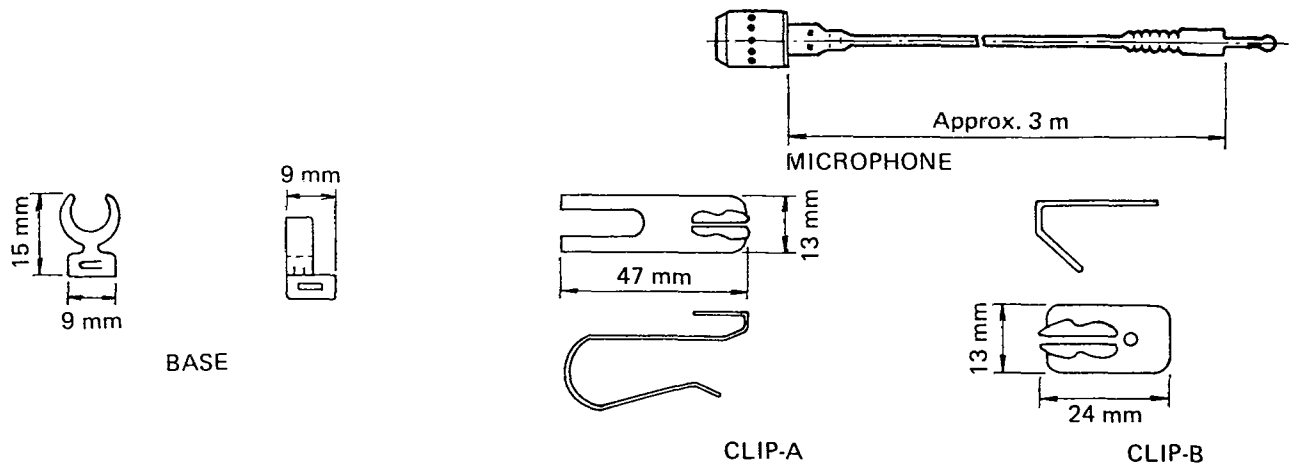

Fig. 2.5
Fig. 2.5 shows the external view of Handsfree Microphone, base and clips.
- (1) Mount the clip to the microphone by inserting the projection of the clip into the hole of microphone base, as shown in Fig. 2.5.
- (2) Mount the microphone on the sunvisor.